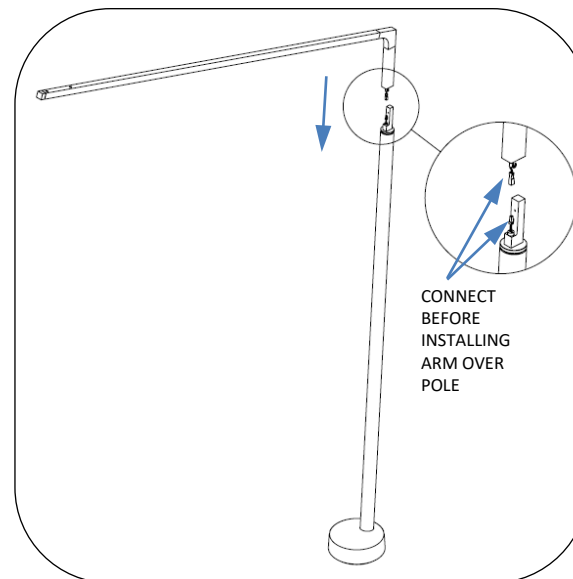

Fig. 7 – install lighted arm
14. Make wiring connection from harness in lighted arm to the connector at the top of the round pole, see Fig. 7.